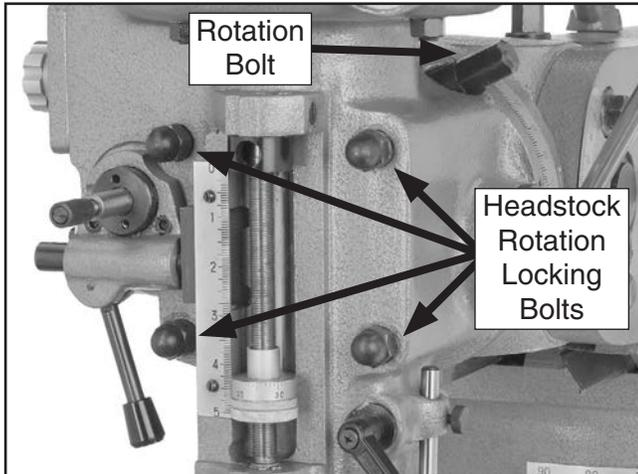

Figure 22. Headstock rotation locking bolts and rotation bolt.
2. Use a 19mm wrench to loosen the four rotation locking bolts shown in **Figure 22**.
3. With one hand against the headstock, apply pressure in the direction of the desired rotation, and use a 19mm wrench to turn the rotation bolt (see **Figure 22**).